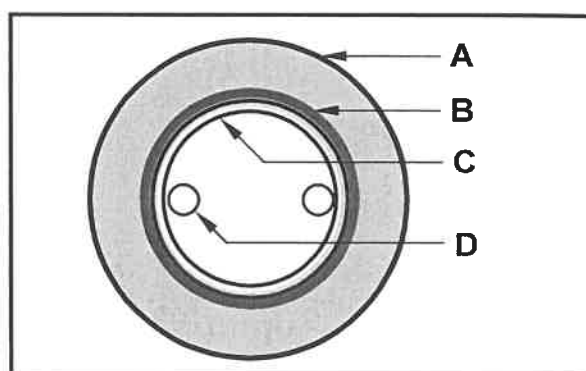

FIGURE 4.2
- 4.2 FIGURE 4.2 below is a photograph of a device used in cold-water systems.